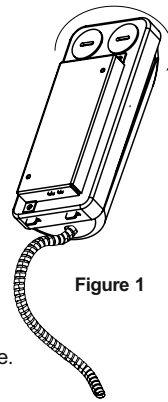
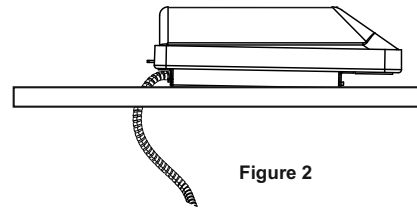

Figure 1
Figure 2
Step 2. Insert junction box (containing driver) into the ceiling opening and secure by screw(s) on the ceiling.(Fig. 1). Figure 2 shows how the junction box should rest on the ceiling when fully inserted.